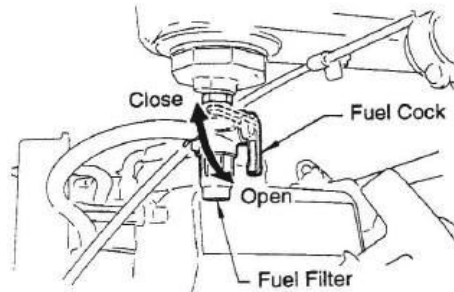

Fig 5
1. Open the fuel shut-off valve by moving the fuel cock lever to the **OPEN** position (Fig 5) then set the engine start/stop switch (Fig 5) to the **START** position.
2. Close the fuel shut-off valve by moving the fuel cock lever to the **CLOSED** position. See Figure 5.